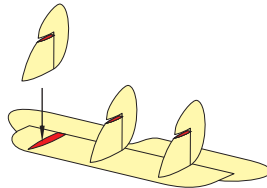

Figure 1
- 1 Empennage (Refer to Figure 1)
- C Attach the three fins to the lower horizontal stabilizer (Refer to Figure 1). Make sure that the three fins are vertical.